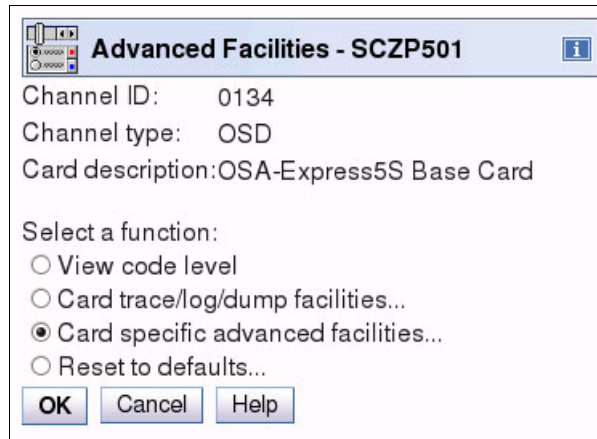

Figure 14-98 OSA Advanced Facilities: card specific advanced facilities
3. Select **Card specific advanced facilities** and click **OK** (Figure 14-98).